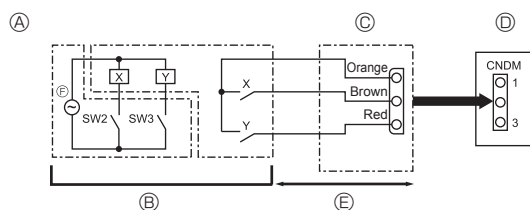

Fig. 9-2
9.2. Demand function (on-site modification) (Fig. 9-2) (Only for Air-Conditioners)